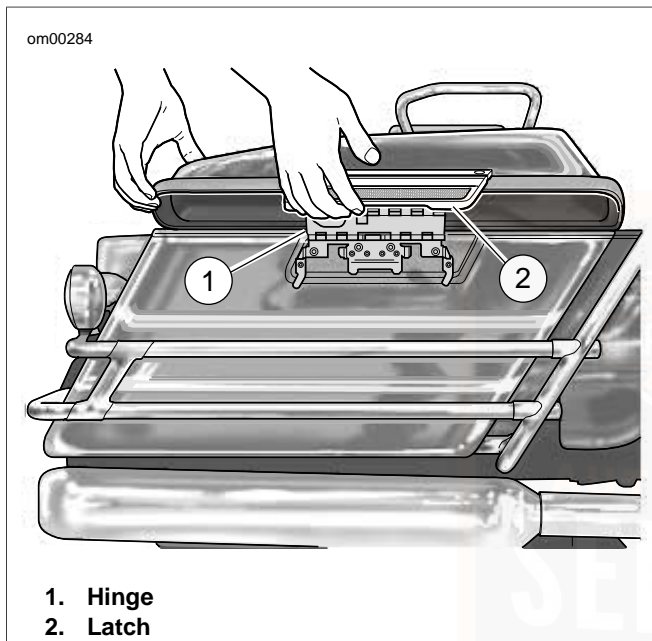

Figure 14. Saddlebags: FLHT/FLTR
1. See Figure 14. Unlock latch.
1. See Figure 14. Use both hands to hold OUTSIDE corners of cover up and slide inside edge back into place so brackets slide together.